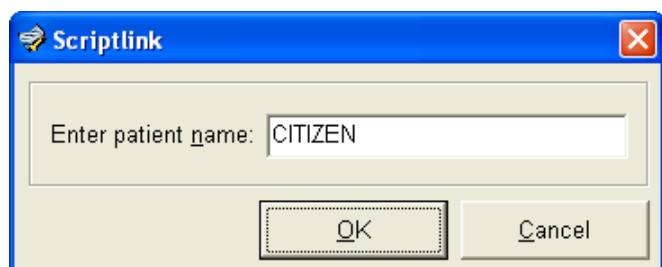

Figure 35
3. At this point you may now key in any script items by pressing the '*' key to display the 'Scriptlink' window. Once open type in the surname (or part of the surname) of the customer whose script you wish to display (as shown in Figure 35).